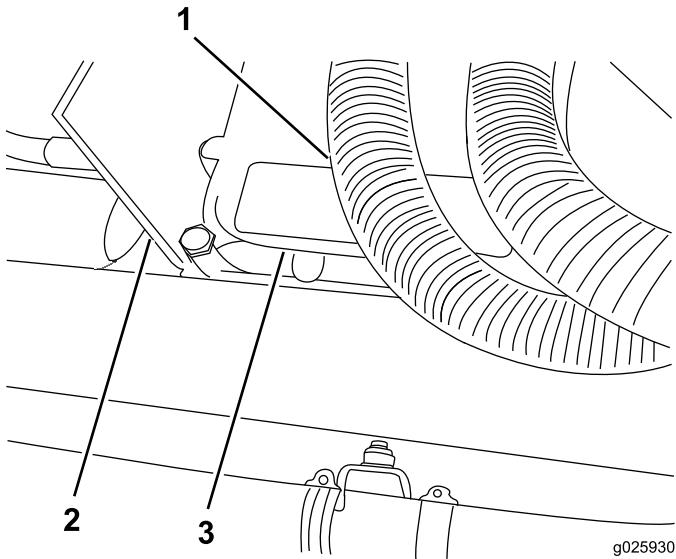

Figure 19
- For model 1750, connect the wiring harness to the electronic controller by routing the wiring harness under the cover (Figure 19).